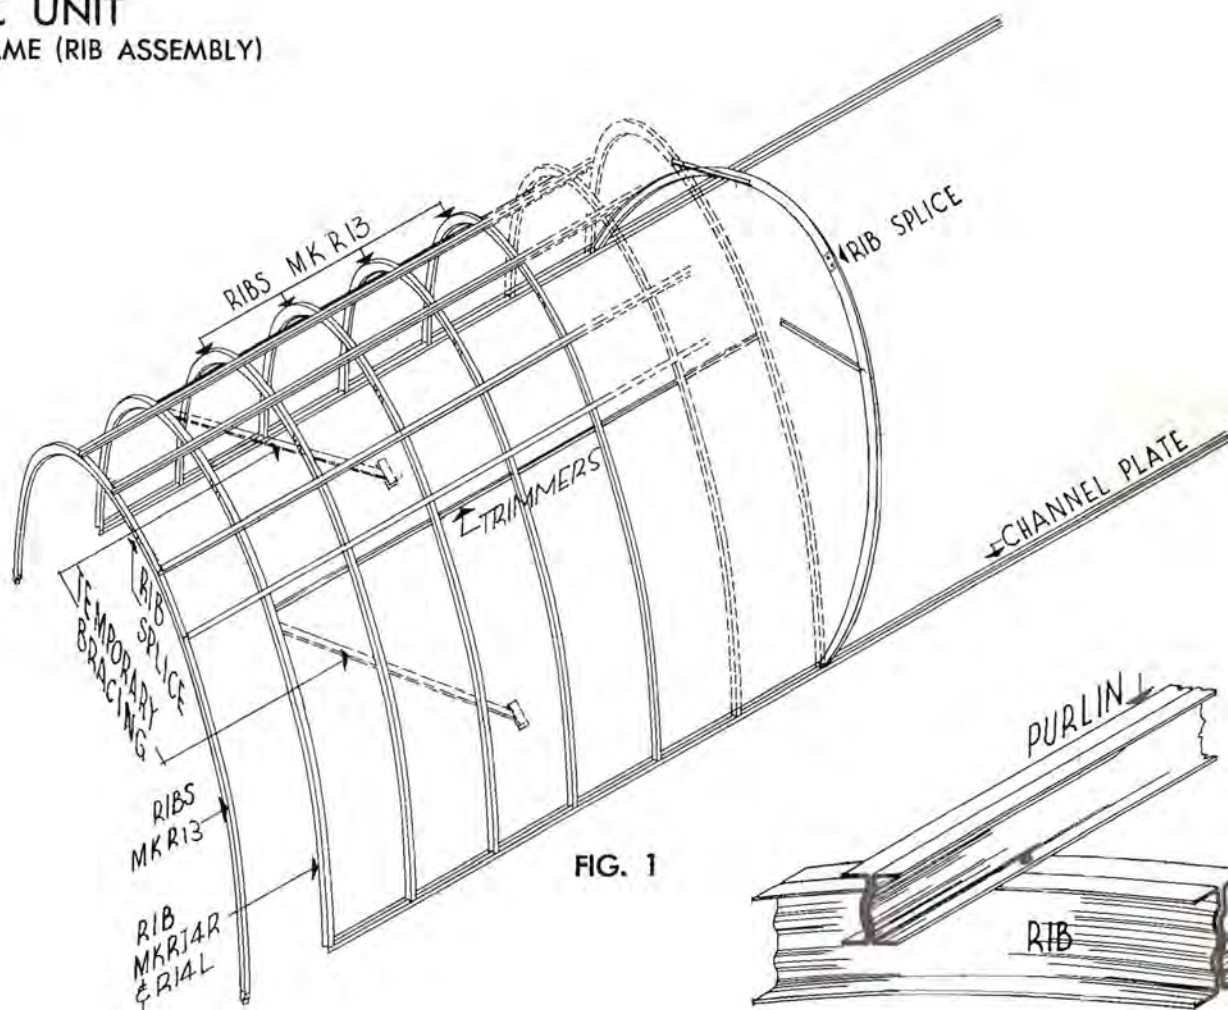

FIG. 1
1. Lay out all the plywood panels (clear side up) starting with row "A" and proceeding to rows "B", "C", "D" and "E" fitting the metal splines between the rows as each is laid. (See Fig. 1 and Sect. B-B.) The ends of the panels should butt over the center of joists Nos. 5, 9, 13, 17, 21 and 25.